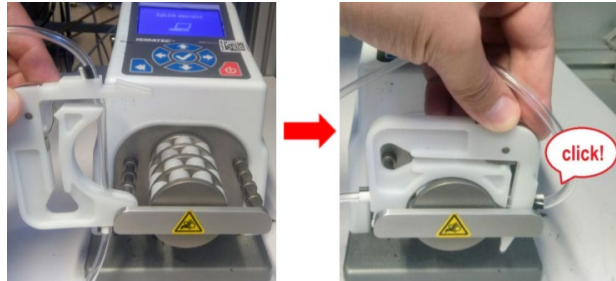

Fig. 7 | Placement of the cassette onto the pump head
8. Fold down cassette until the tongue locks in place with an audible 'click' on the right-hand side bar. (Fig. 7)